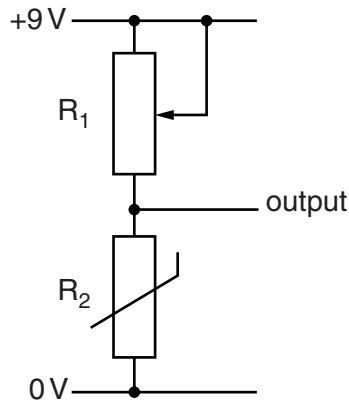

Fig. 3
- 5 Fig. 3 shows part of the input circuit for a room thermostat.